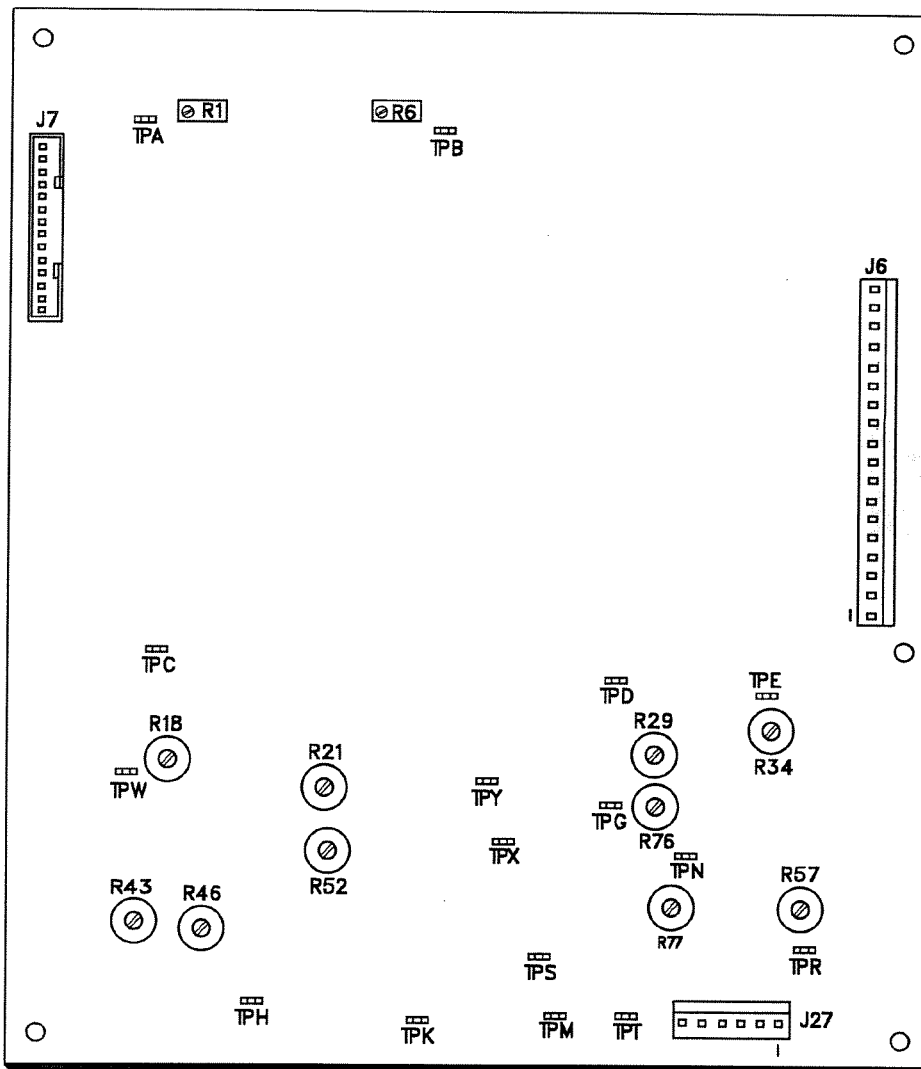

Figure 6-1 Main Control Printed Circuit Board
3. Turn resistor (R52) to MAX position in CCW direction. See Figure 6-1 for location of this resistor.
Refer to Figure 6-1.
- i. Resistor (R46) on the main control board (Figure 6-1) in the Programmer can be used as a *fine tuning control* for calibrating the maximum current output, while resistor (R79) on the SCR control board can be used as a *coarse control* for calibrating the maximum current output.
- j. Press the WELD STOP Pushbutton (item 26).
- c. Set the POSTHEAT TIMER MODULE (item 18) to 040 (4 seconds), and the POSTFLOW TIMER MODULE to 20.